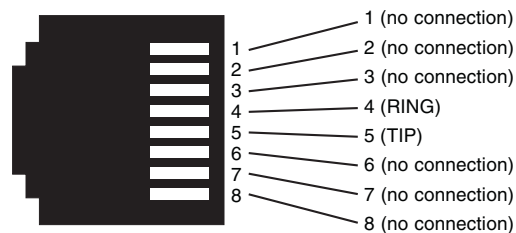

Figure 3. CL1212E (RJ-45) twisted pair line interface.
2. The CL1212E is equipped with an RJ-45 interface jack (figure 3)
The RJ-45 connector on the CL1212E's twisted pair interface is polarity insensitive and is wired for a two-wire interface. The signal/pin relationship is shown in figure 3.